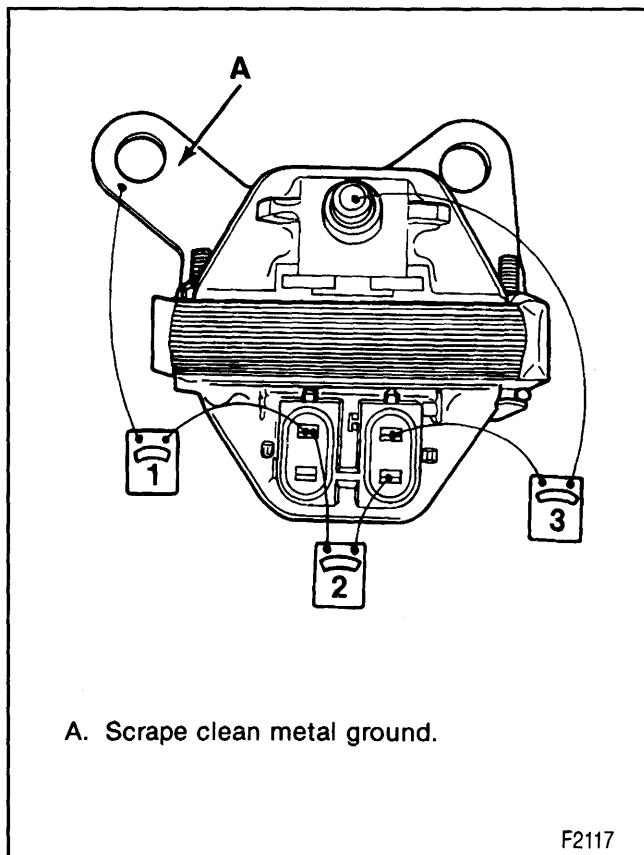

Figure 6—Testing the Ignition Coil
2. Connect J 39200 as shown in step 1 of figure 6. Use the high scale. The reading should be OL (infinite). If not, replace the ignition coil.
3. Connect J 39200 as shown in step 2 of figure 6. Use the low scale. The reading should be very low or zero. If not, replace the ignition coil.
4. Connect J 39200 as shown in step 3 of figure 6. Use the high scale. The meter should not read OL (infinite). If it does, replace the ignition coil.